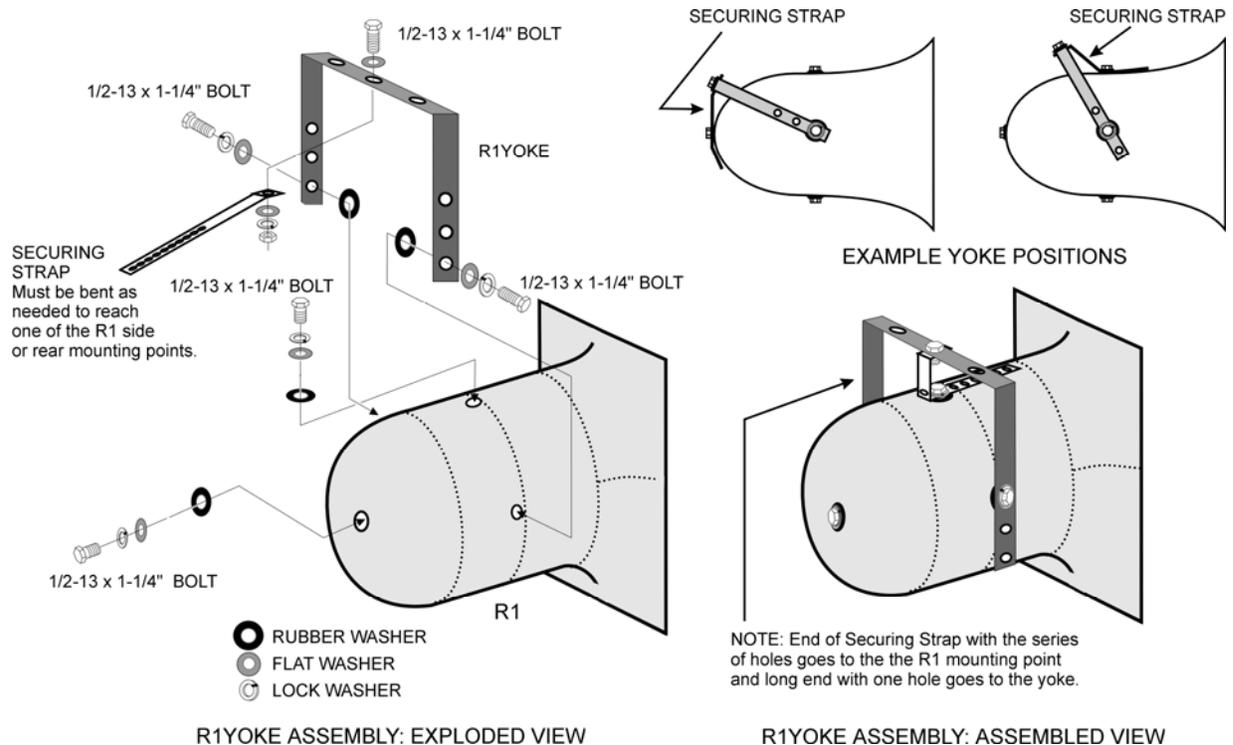

FIGURE 3: R1YOKE Assembly
Custom Mounting Brackets: Custom brackets may be used. When mounting the loudspeaker the bracket should pull directly either in tension or shear on the mounting point (See FIGURE 3). It is recommended that any custom bracket be designed to utilize two mounting points on the opposite sides or top and bottom of the enclosure.
8.3.2 R1YOKE MOUNTING PROCEDURE (See FIGURE 3)
5. After properly securing the yoke to the structure, adjust the final aiming angle of the R1. Once the aiming angle is set, carefully bend the Securing Strap towards the nearest mounting point on the R1 so that one of the series of holes in the Strap lines up with the selected mounting point. This may involve forming the strap into a "U" shape (as shown in FIGURE 3 "Assembled View") to reach one of the remaining side mounting points or the rear mounting point.